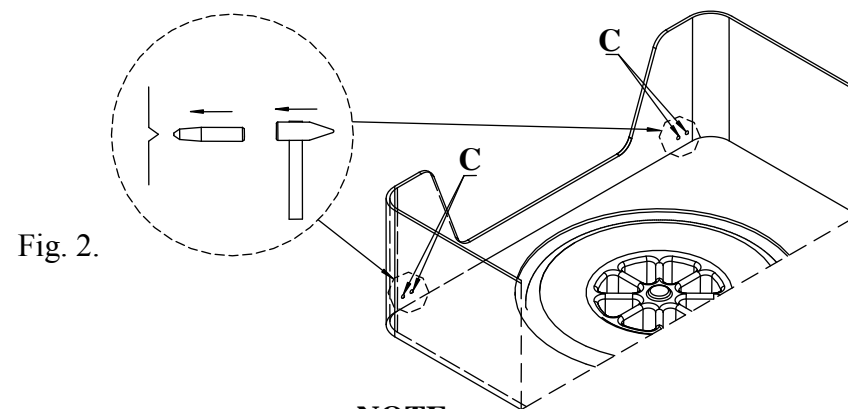

Fig. 2.
2. Place fish-plates (pos. 4 and 5) on trunk's floor. Holes A and B are placed on the left and right side trunk's floor, over left and right chassis member. They are marked as dents. Find them using fish-plates (pos. 4 and 5). Then take out fish-plates and drill trunk's floor using bit $\varnothing 17\text{mm}$ in points A and B.
3. Place again fish-plates (pos. 4 and 5). Using them find points C on rear wall of he trunk. They are marked by a car producer as dents.
4. Remove fish-plates and knock out dents (see figure 2). Resultant holes enlarge using bit $\varnothing 12\text{mm}$. Drill straight through rear wall of the trunk.
5. Place fish-plates (pos. 4 and 5) again together with distance sleeves (pos. 6, 7 and 8) and bolts M10x110mm (pos. 11) and M10x100mm (pos. 12) as shown on the figure. **NOTE!! Sleeves have different length!** Place plates (pos. 9) from outside of rear trunk's wall and fix it using bolts M10x35mm (pos. 13)
6. Place main bar of the towbar (pos. 1) together with square washer (pos. 10) and fix it through holes A and B using five nuts M10 and washers $\varnothing 25 \times \varnothing 11 \times 3\text{mm}$ (pos.15).
7. Fix body of the automat and place tow-ball according to supplied instruction. Note! Remember to place socket plate (pos. 3) as shown on the drawing 1.